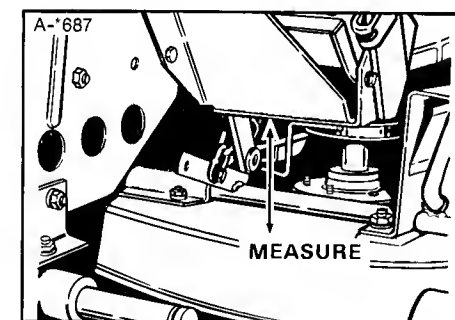

Figure 45. Measurement - Large Lift Lever - 36" Mower
2. Measure the distance from bottom edge of lever bracket to mower deck (figure 45).